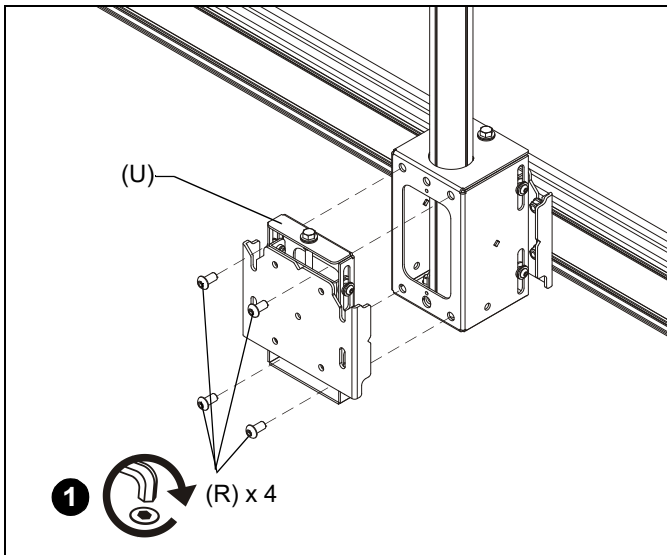

Figure 8
1. Attach add-on head (U) to existing array head using four 5/16 x 5/8" button head cap screws (R). (See Figure 8)